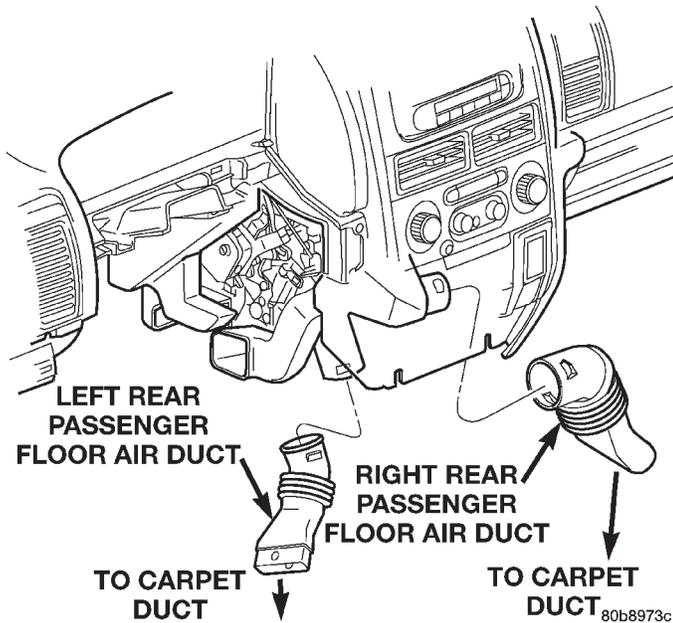

Fig. 40 Rear Floor Ducts
- (1) To remove the rear floor ducts from the vehicle, remove the knee blocker panels for access, and pull carpeting back.
- (2) Pull the floor ducts from the HVAC housing (Fig. 40).